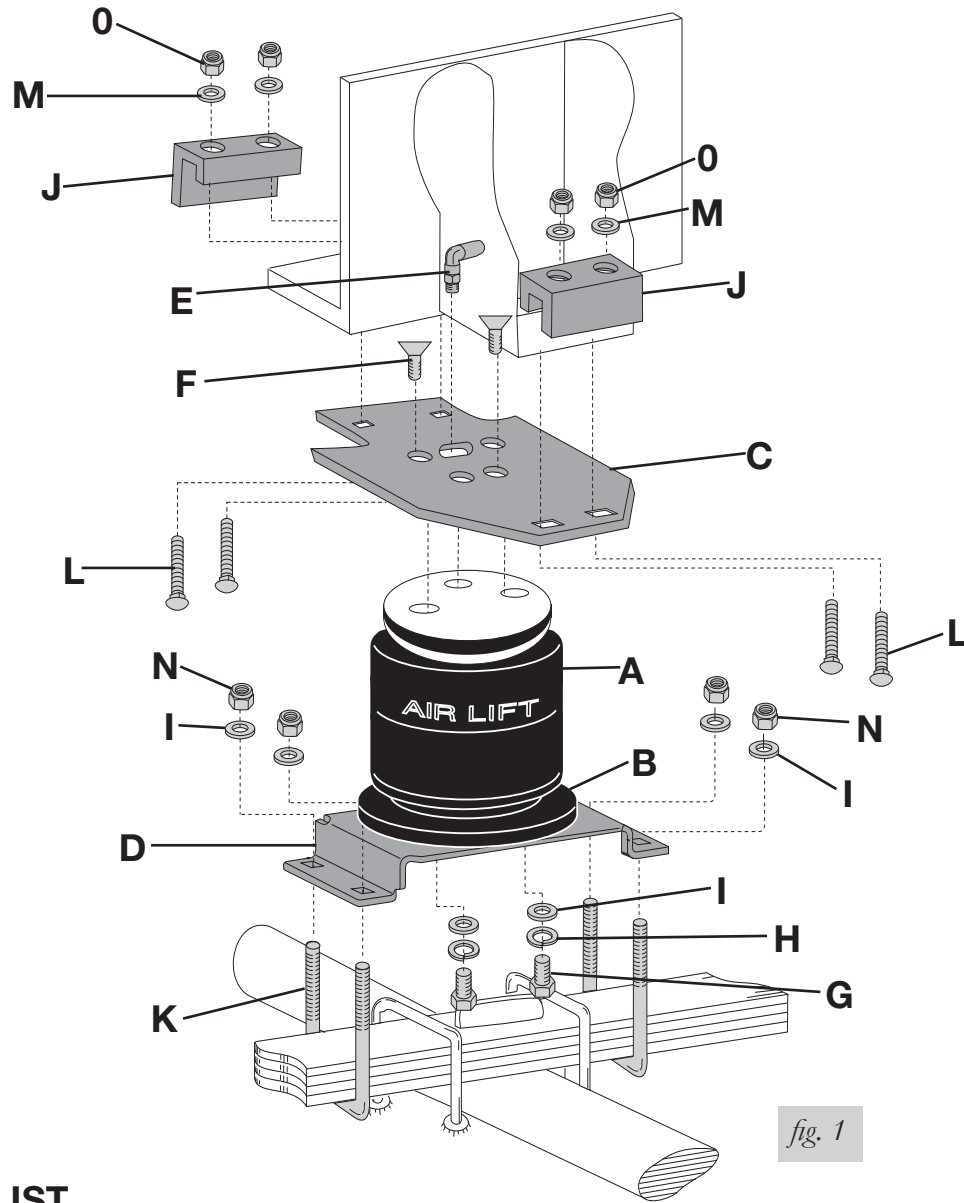

fig. 1
1. Set the assembly onto the leaf spring. Index the fitting into the existing hole in the frame flange, forward of the axle (see Fig. 1 & Fig. 6a).
6. Install the U-bolts under the leaf spring, through the lower bracket and cap with a 3/8" flat washer and nylon lock nut. Torque the U-bolts evenly to 16 lb.-ft. (22Nm). Trim the excessive length of the U-bolts close to the nylon lock nut (see Figs. 1 & 8). Repeat for the opposite side.